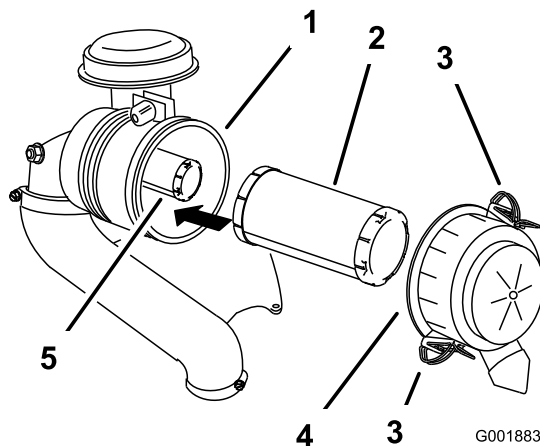

Figure 37
3. Release the latches on the air cleaner and pull the air-cleaner cover off the air-cleaner body (Figure 37).
2. If the safety filter is being replaced, carefully slide it into the filter body (Figure 37).
3. Carefully slide the primary filter over the safety filter (Figure 37).
4. Install the air-cleaner cover with the side indicated as up facing upward and secure the latches (Figure 37).
5. Gently slide the primary filter out of the air-cleaner body (Figure 37).